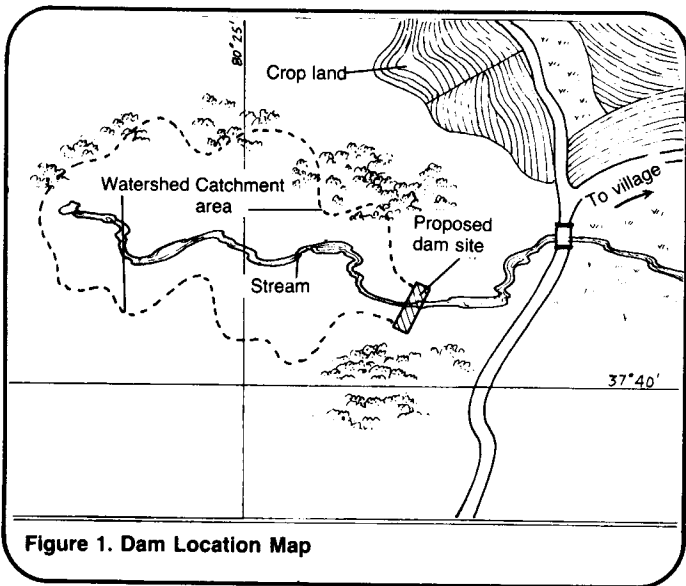

Figure 1. Dam Location Map
1. A survey map of the area including the exact location of the dam. Figure 1 shows the type of location map that should be prepared.